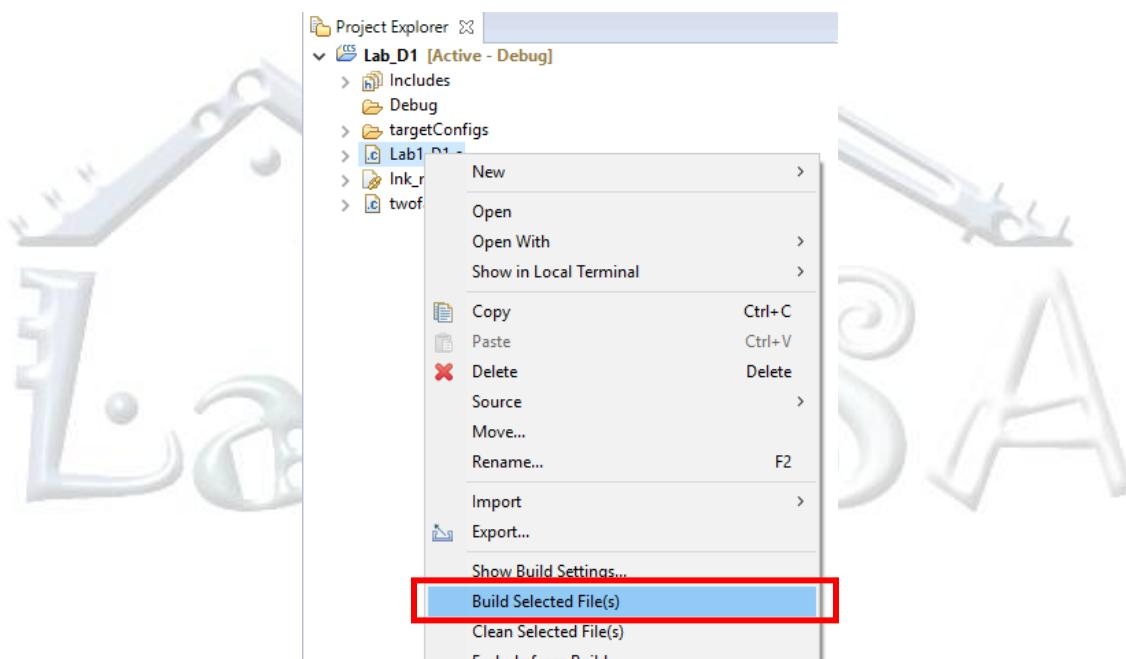

Figure 11. File Options Menu
Step 3. To build a single file right-click the file in the Project Explorer and select “Build Selected File(s)” as shown in Figure 11 (for file Lab1_D1.c). The Console window will show you if there are any build errors (Figure 12).